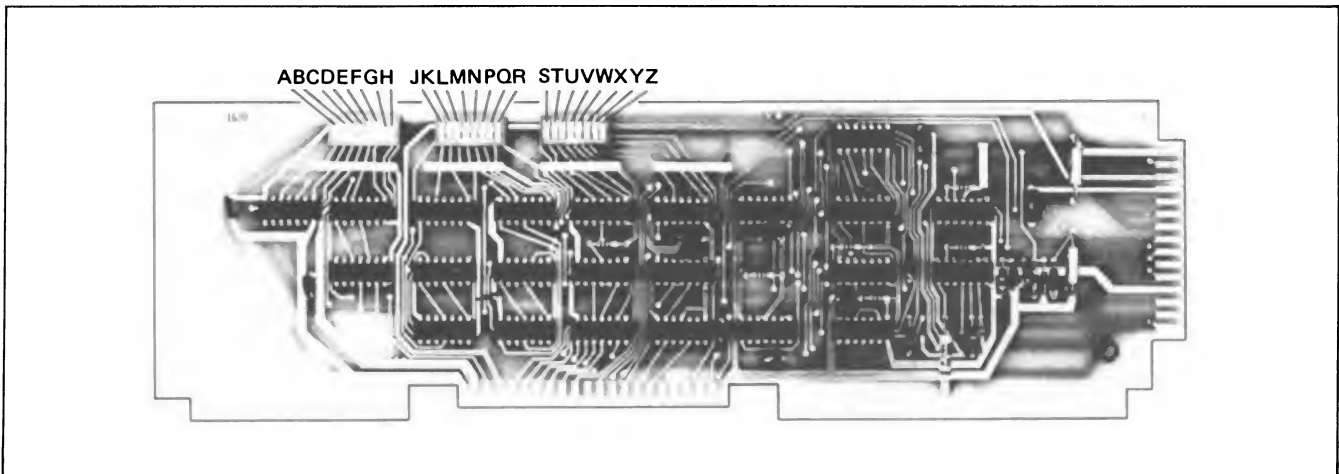

Figure 7-14. Keyboard Interface PCA Strapping Options
3. ( ) Using figure 7-14 or 7-15 (as applicable) and table 7-3 or 7-4 (as applicable), select the desired operating functions, and set the switches to the appropriate positions. (More information on configuration is given in section V.)